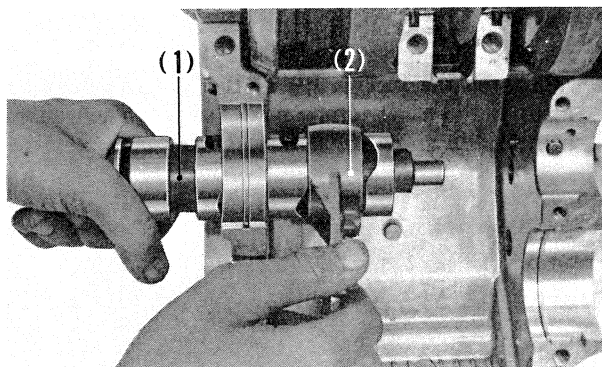

Fig. 4-89 (1) Gearshift drum
1. Set the drum to the gearshift fork B as shown in Fig. 4-89.